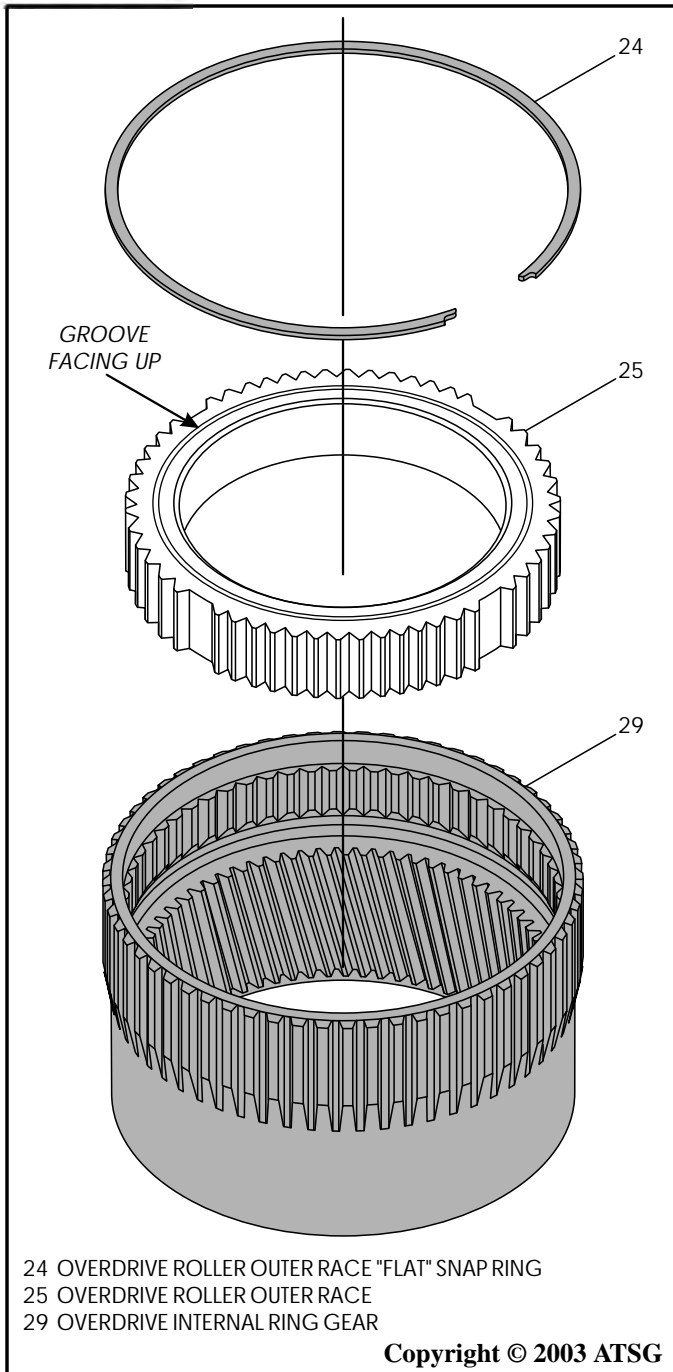
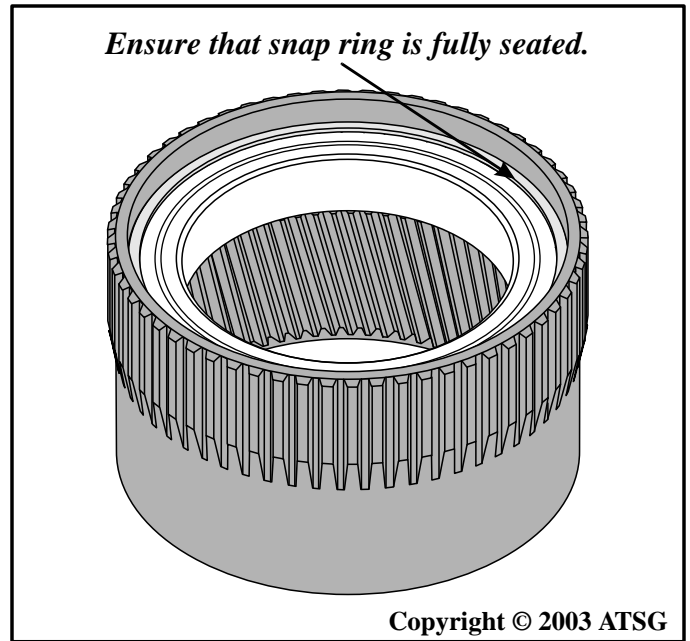

Figure 141
Figure 142
4. Position the overdrive ring gear on a flat work surface, as shown in Figure 141.
5. Install overdrive roller clutch outer race into overdrive ring gear, as shown in Figure 141.
Note: Groove in outer race must face up, as shown in Figure 141.
6. Install the *flat* snap ring into the groove in ring gear, as shown in Figure 141, and ensure that it is fully seated, as shown in Figure 142.